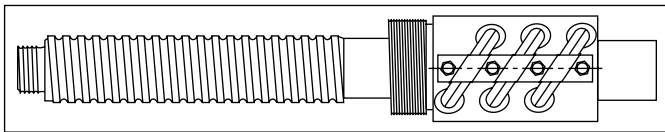

Figure 3
1. Remove any ball nut retainer from the arbor. Hold the arbor firmly end to end with the screw. Make certain the arbor end is centered on the screw shaft end. (See Figure 3.)